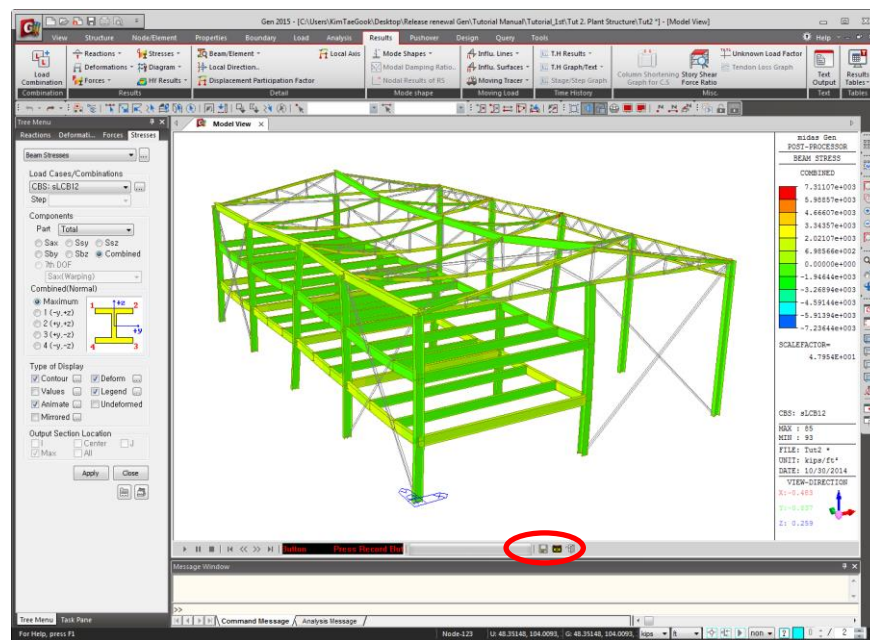

Figure 2.36 Animation Window
1. Check (✓) **Animate** in **Type of Display** (Fig.2.36) and remove the check in **Legend**.
3. Click  **Record** as shown in Fig.2.36–1.